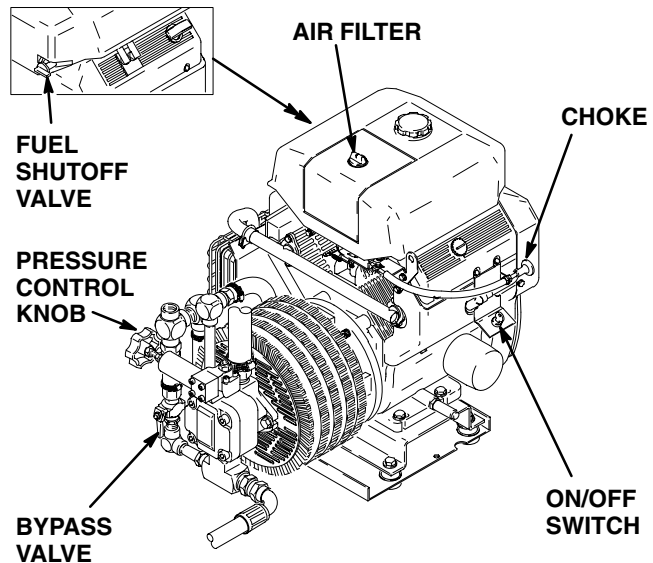

Fig 6
- a. Open the bypass valve to make startup easier. In the open position, the valve lever is parallel to the body of the valve. See Fig 6. Close the filter drain valve.
- c. Open the fuel shutoff valve. See Fig 6.
- d. If the engine is cold, close the choke by turning the lever to the ON position (horizontal). See Fig 6.
3. Turn and hold the ignition key to START until you hear the engine "catch", then release the key to RUN. See Fig 6. If the engine does not start, open the choke a little (push the choke head in). If the engine floods, open the choke all the way and try again.
- e. After the engine is warm, gradually open the choke lever (push choke head in completely) and close the bypass valve. See Fig 6.
To stop the engine in an emergency, turn OFF the ignition key. Close the bypass valve if possible. See Fig 6. Then follow the **Pressure Relief Procedure Warning on page 10.**
- Squeeze the trigger and *slowly* turn the pressure control knob *clockwise* just enough to start the pump. See Fig 6.